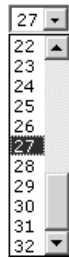

Figure 6-15 — Output selection drop box
1. To select an individual output to mute or unmute, click the Output drop box. A drop-down scroll box appears (figure 6-15).